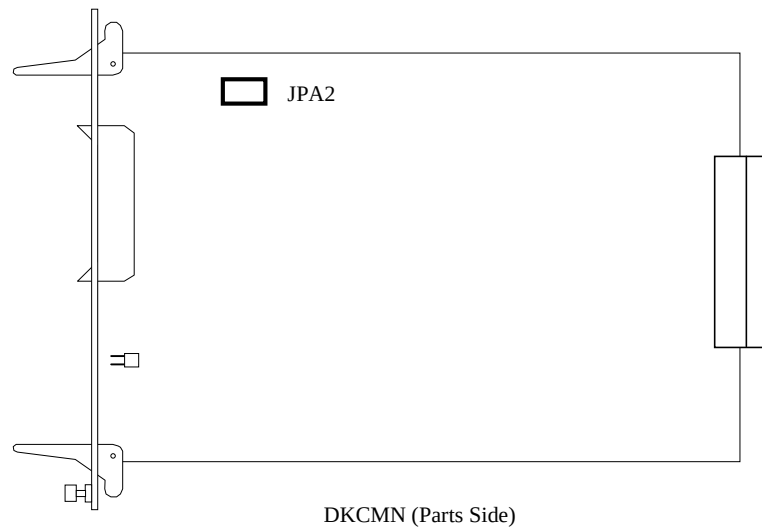

Fig. 3.14-5 Location of Jumper Plugs
- a. Set the jumper plugs in the DKCMN PCBs referring to Fig. 3.14-5, Table 3.14-2.